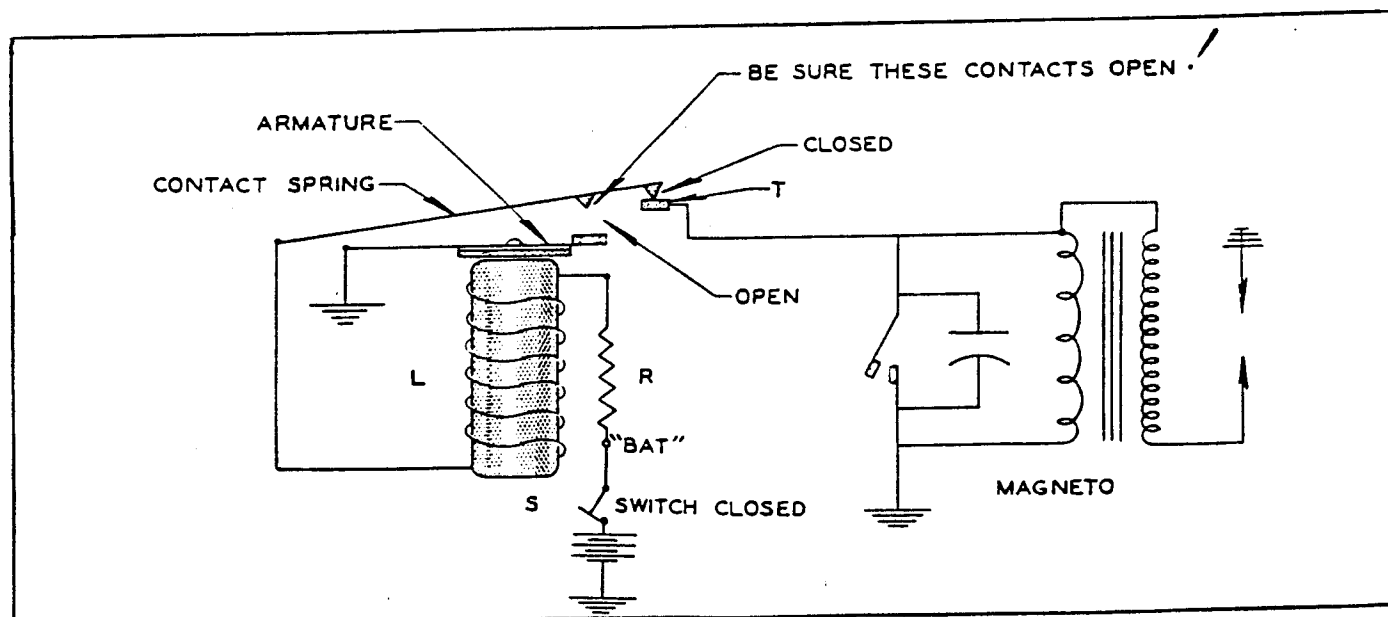

Figure 27. Starting Coil Energized
When the armature moves down, this position allows the contact spring to contact the magneto terminal "T". Then the armature moves still further down and in this position opens the contact between the armature and the contact spring. The position of the contacts when thus energized is shown in figure 27. Current now flows to ground through the closed contacts of the magneto or if the magneto contacts happen to open, through the primary of the magneto coil.
(d) The contacts in the starting coil assembly remain in the relation shown in figure 27 throughout the starting of the engine. These contacts do not vibrate or open as long as the starter is cranking the engine. They serve merely as a relay to connect the starting coil to magneto primary during starting of the engine, and to disconnect it when the starter engaging switch is released.
1. With the starting coil energized as shown in figure 27 current flows through resistor "R", coil "L" and thence through the contact points of the magneto to ground. Since the magneto primary is short-circuited by the contact points, there is no current flow in the primary at this time. The resistor "R" limits the current to a safe value so that the coil "L" will not be damaged by heat.
Connect a length of No. 12 wire to this same terminal. Place all ignition controls in the OFF position. Touch the end of the wire to an auxiliary source of power. Observe the operation of the starting coils. All three armatures should snap down against their own coil assemblies as shown in figure 27. If the coils do not operate in this manner, or if any coil has a tendency to buzz or to vibrate, shut off the power and check for possible causes of trouble.